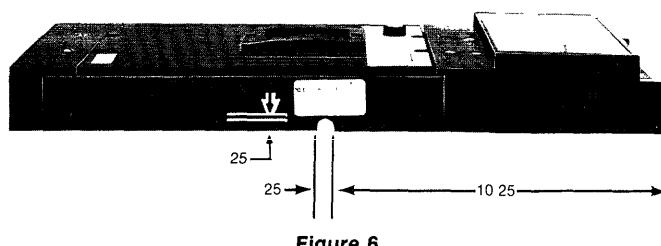

Figure 6
7. Slot cover for lead exit as shown and affix identification labels as shown. (Figure 6)